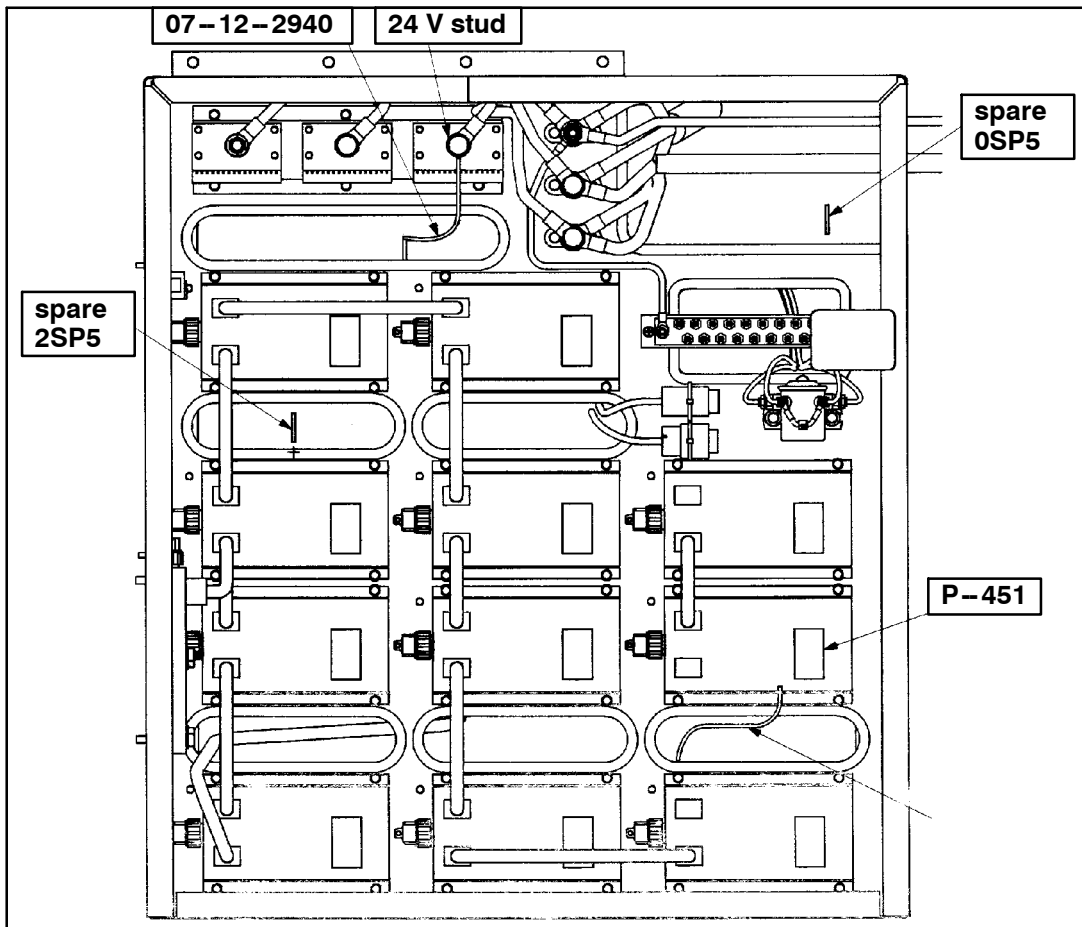

Figure 33. #3 baggage bay compartment.
51. Locate wire 2SP5 in the front main harness (refer to Figure 33). Using heat shrink, p/n 19-11-1465, and solder splice, p/n 19-11-1466, splice wire 2SP5 to harness, p/n 07-12-2940.
52. Connect harness, p/n 07-12-2940, to the 24V distribution stud (refer to Figure 33).
53. Locate wire 0231 on P-451 (3) on Module B8. Using heat shrink, p/n 19-11-1465, and solder splice, p/n 19-11-1466, splice wire 18AWG, bk 19-11-969, three (3) inches before the connector P-451 (refer to Figure 33).
54. Locate wire 0SP5 in the front main harness (refer to Figure 33). Using heat shrink, p/n 19-11-1465, and solder splice, p/n 19-11-1466, splice wire 0SP5 to wire 18AWG bk 19-11-969.